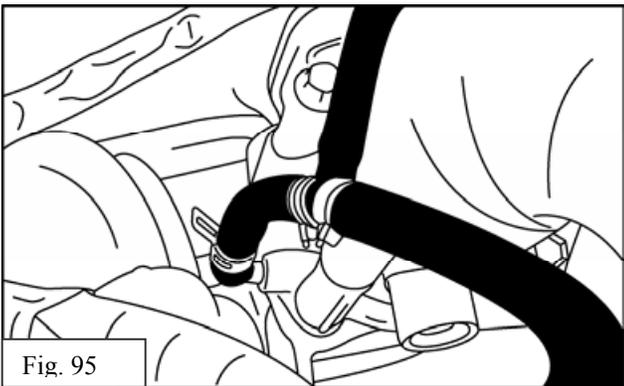

Fig. 95
- (e) Cut OE vacuum line near throttle body and insert TRD-provided plastic T fitting and TRD-provided vacuum hose. See Fig 95.